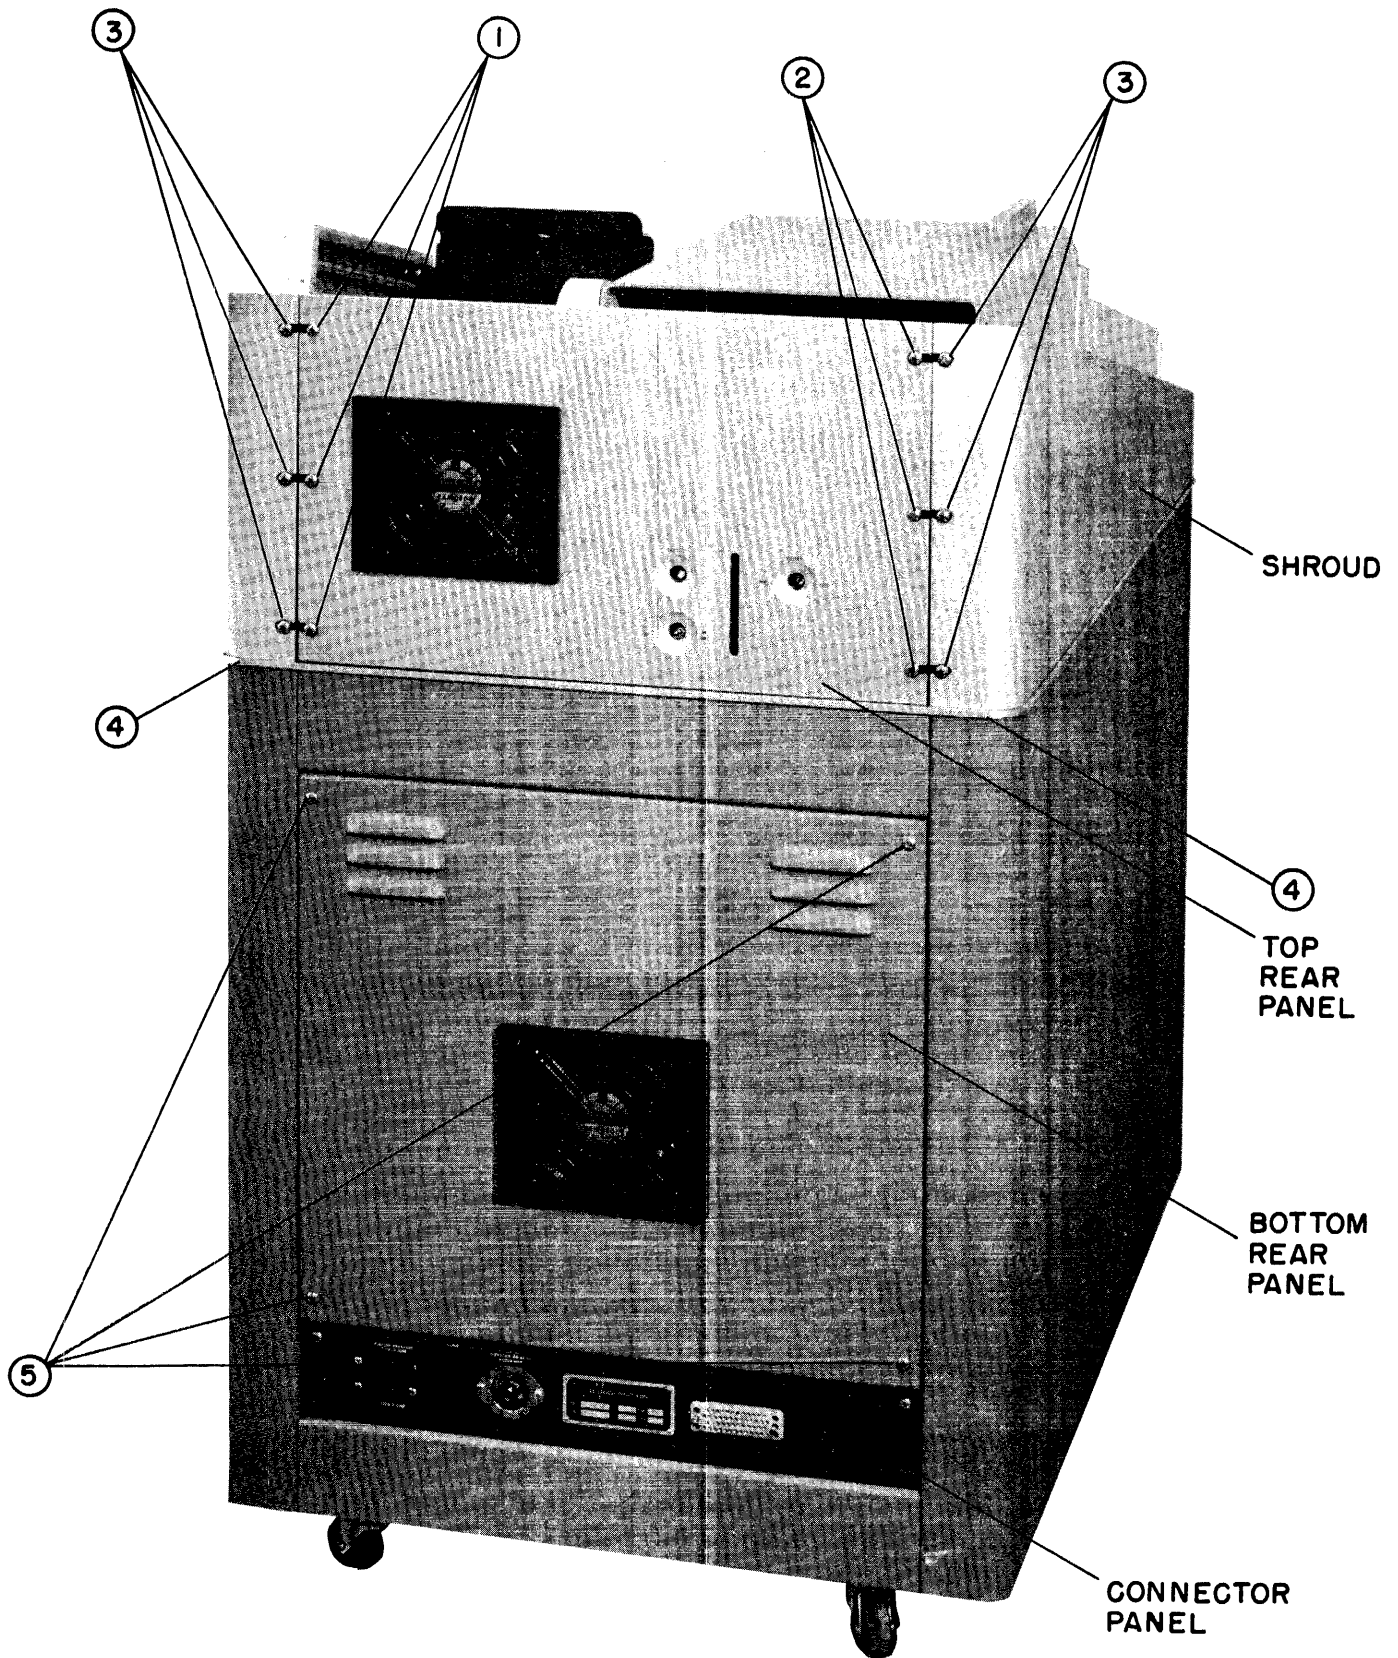
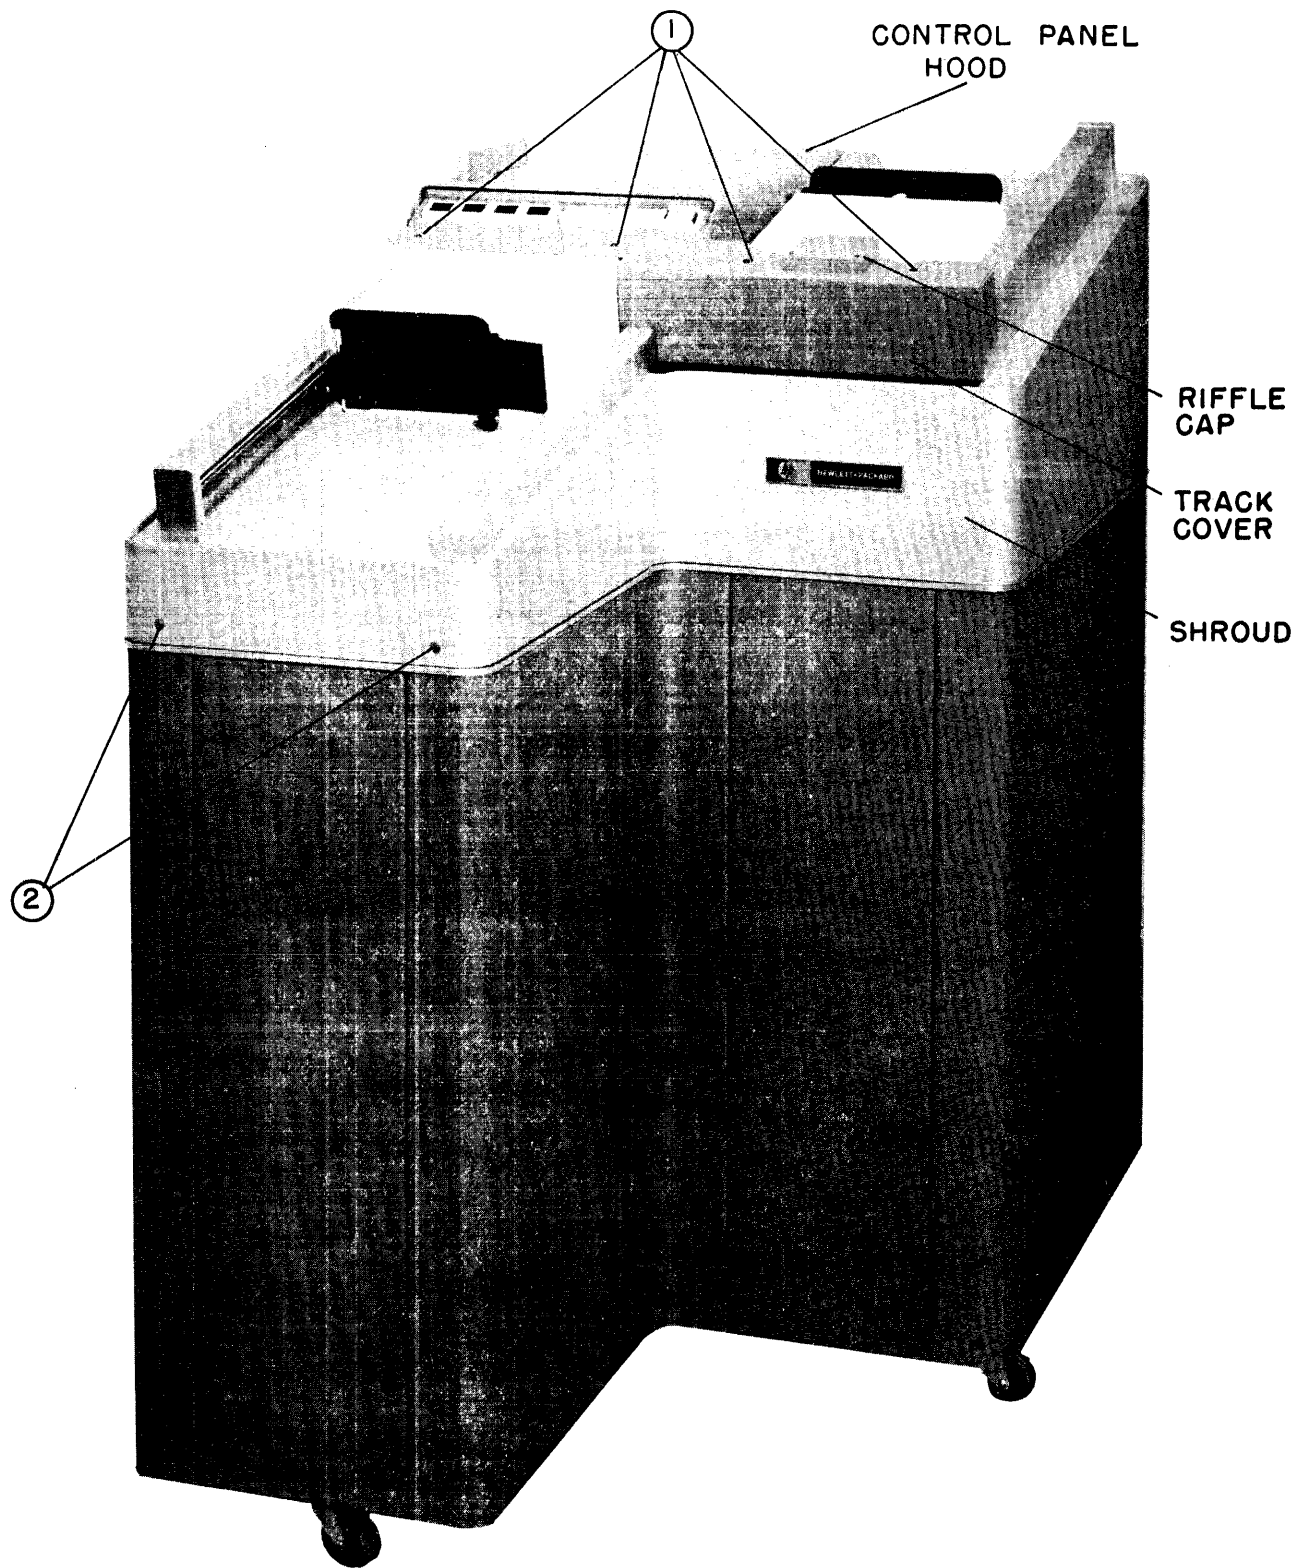

Figure 9-1. Card Reader Console, Rear View
Figure 9-2. Card Reader Console, Front View
After each 160 hours of operation, the card track should be cleaned. Using a 5/64 Allen wrench, remove four button head screws ①, Figure 9-1, holding top panel cover. Remove this cover and use a vacuum cleaner to remove any card debris buildup around the picker and stacker castings. Use a small brush to clean around the picker and stacker rollers and picker sector.
Use a #2 Phillips screwdriver to remove the three screws and flat washers ① and LOOSEN the three screws ② which hold the top rear panel to the mainframe, figure 9-1. Slide top rear panel to left and move it out slightly. Disconnect fan motor connector and remove top rear panel.
Use a #2 Phillips screwdriver to remove the two screws ② from the front of the shroud, figure 9-2. Using the same tool, LOOSEN the six screws ③ which hold the shroud to the mainframe, figure 9-1. With both hands grasp the shroud at the points indicated ④. Spread shroud and carefully lift it over top of card reader.
Use a 5/64 Allen wrench to remove the four screws ① which secure the track cover to the mainframe and remove the track cover, figure 9-2.
Use a 5/64 Allen wrench to remove the three screws on right side of the control panel hood (as viewed from back of cabinet), figure 9-1. Use a 5/64 Allen wrench to remove the two screws left side of the control panel hood.